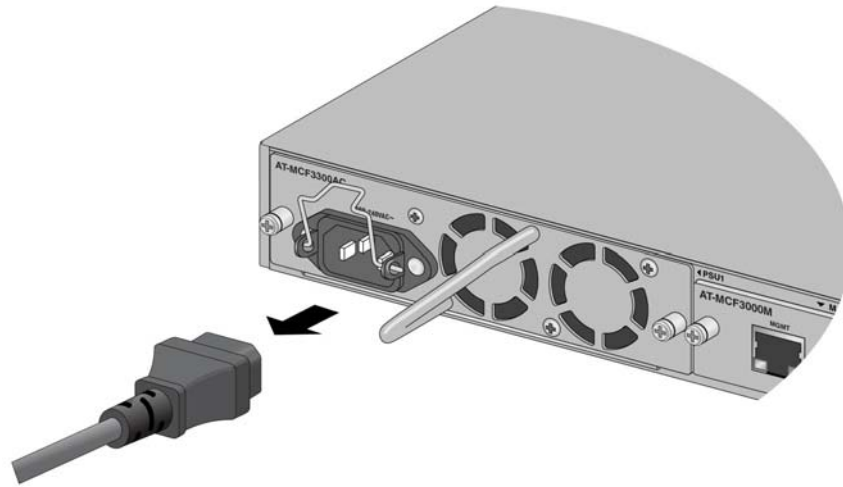

Figure 68. Disconnecting the Power Cord from the MCF3300AC Power Supply
3. Disconnect the power cord from the chassis. Refer to Figure 68.